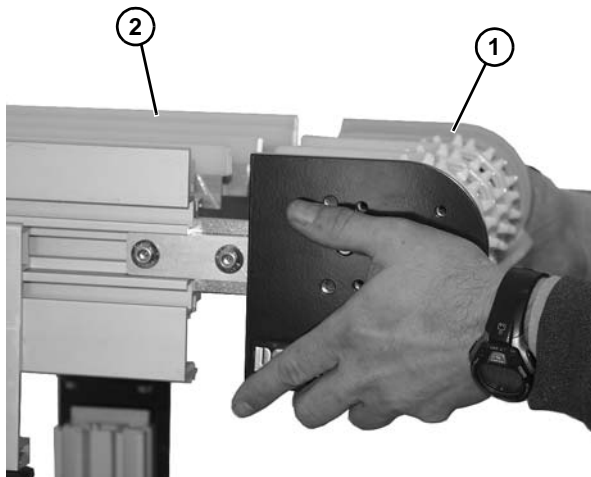

Figure 49
3. Remove the drive tail assembly (Figure 49, item 1) from the frame (Figure 49, item 2).